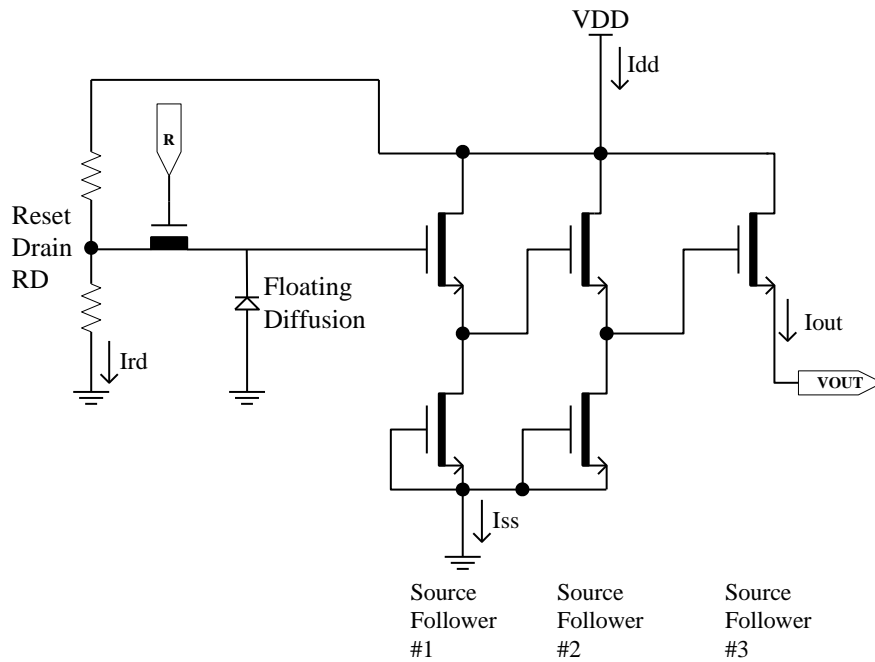

Figure 12: Output Amplifier
- Each output. See Figure 12. Note that the current bias affects the amplifier bandwidth.
1. The maximum DC current is for one output unloaded and is shown as I_{rd} + I_{ss} in Figure 12. This is the maximum current that the first two stages of one output amplifier plus the reset drain bias circuit will draw. This value is with V_{out} disconnected.